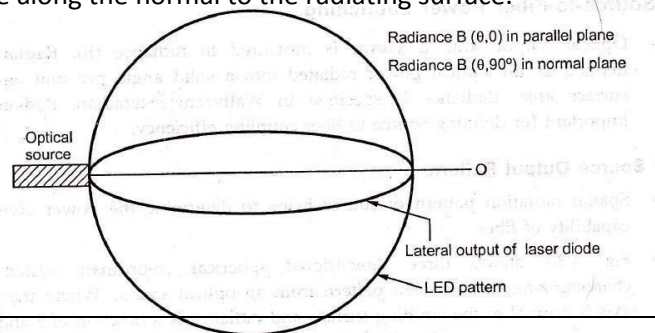

Fig. 4.3.2 Radiance pattern of Lambertian source
4. The Lambertian output by surface emitting LED is equally bright from any direction. The emission pattern of Lambertian output is shown in Fig. 4.3.2 and its output is –